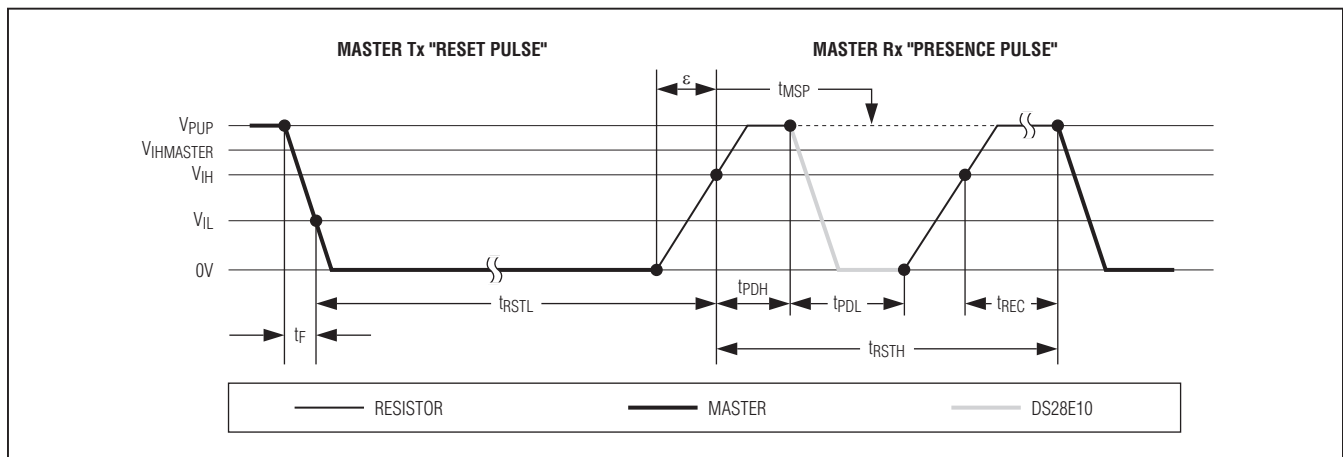

Figure 9. Initialization Procedure: Reset and Presence Pulse
To get from idle to active, the voltage on the 1-Wire line needs to fall from  $V_{PUP}$  below the threshold  $V_{IL}$ . To get from active to idle, the voltage needs to rise from 0V past the threshold  $V_{IH}$ . The time it takes for the voltage to make this rise is seen in Figure 9 as  $\epsilon$ , and its duration depends on the pullup resistor ( $R_{PUP}$ ) used and the capacitance of the 1-Wire network attached.
Figure 9 shows the initialization sequence required to begin any communication with the DS28E10. A reset pulse followed by a presence pulse indicates that the DS28E10 is ready to receive data, given the correct ROM and memory function command. If the bus master uses slew-rate control on the falling edge, it must pull down the line for  $t_{RSTL} + t_F$  to compensate for the edge. A  $t_{RSTL}$  duration of 480 $\mu$ s or longer exits the overdrive mode, returning the device to standard speed. If the DS28E10 is in overdrive mode and  $t_{RSTL}$  is no longer than 80 $\mu$ s, the device remains in overdrive mode. If the
- 1) Generate a reset/presence detect sequence (see Figure 9).